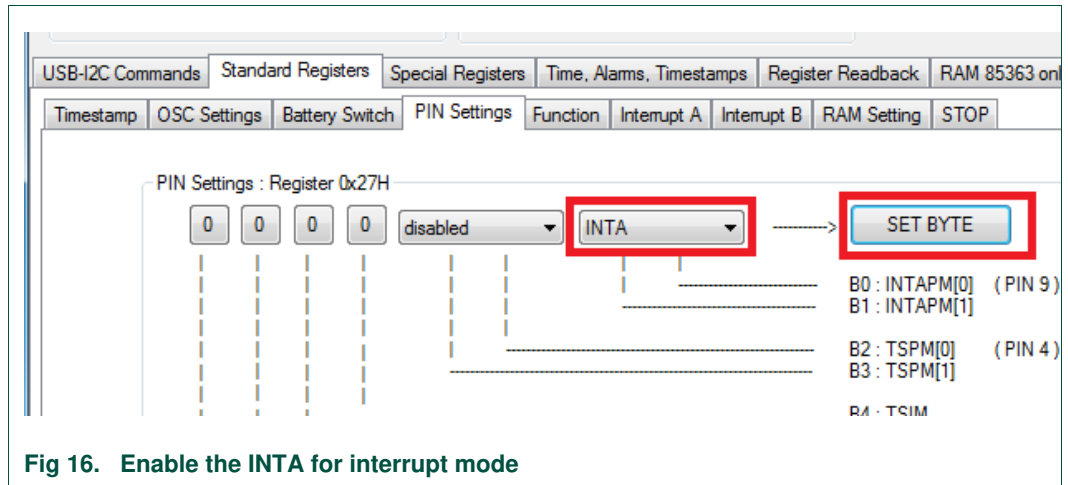

Fig 16. Enable the INTA for interrupt mode
2. Enable *INTA* for interrupt mode (see Fig 16).